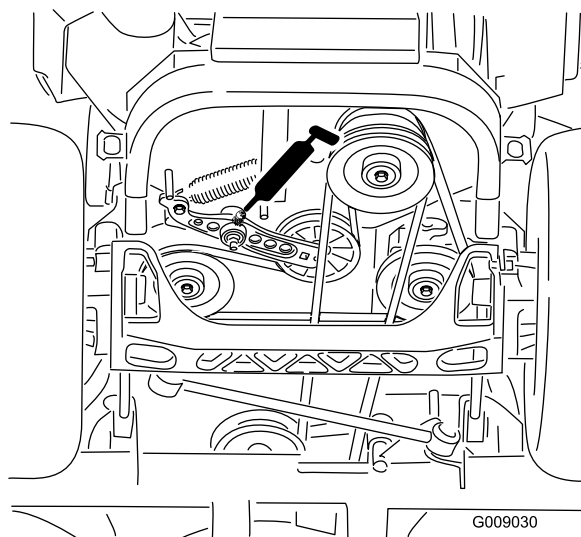

Figure 43
4. Grease the drive-belt-idler arm (Figure 43).